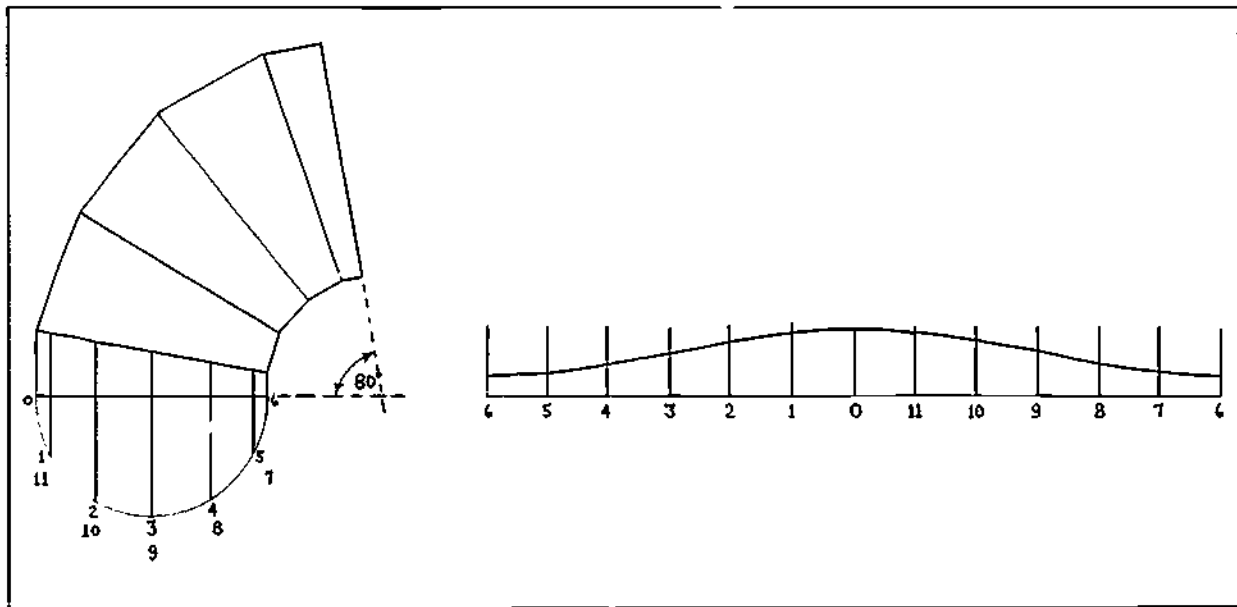

Figure 5-31. Five Piece 80° Elbow
**Five Piece 80° Elbow** The principles applied in the two previous examples form the basis for developing this pattern as shown in the layout in Figure 5-31. In calculating the circumference of the elbow to establish the length of the pattern base line, the neutral diameter must be used. The two end sections are half sections of the main elbow patterns. The position of the seam line is a design specification and may vary from the joint line shown in Figure 5-31.